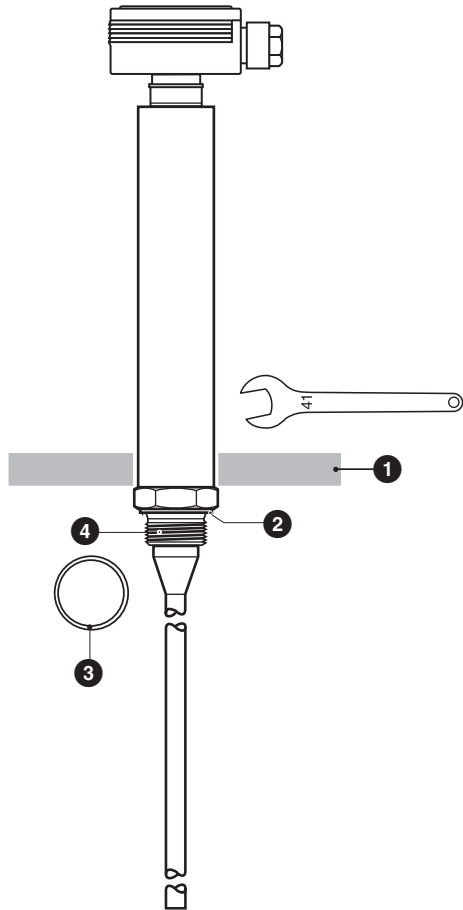

Fig. 3
2. Place joint ring ③ onto seating surface ② of the electrode, **Fig. 3**.